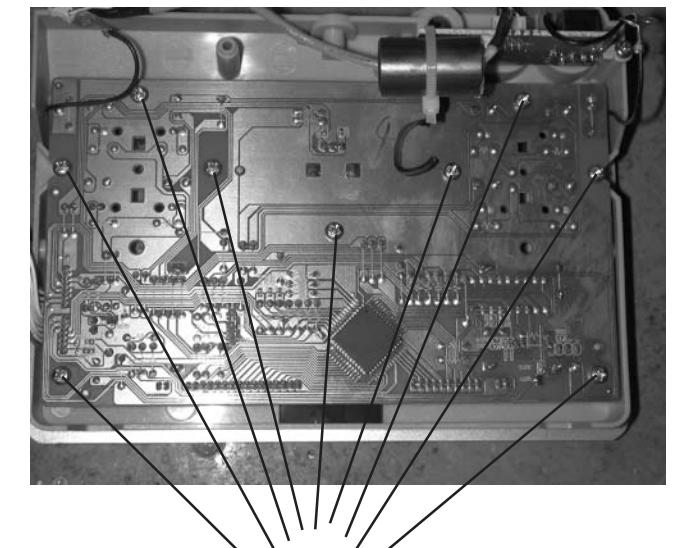

Figure 9
- 1) Loosen 9 screws " J" on the bottom cover as shown in Figure 9.